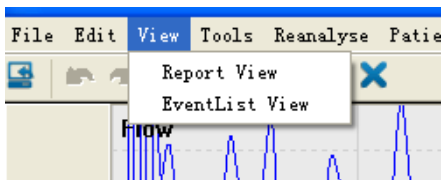
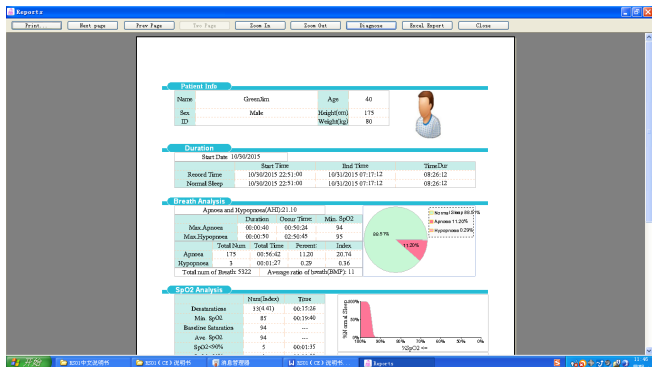

Figure 5-4-3
Figure 5-4-4
3. There are two menu options in the “View” menu, “Report View” and “EventList View” (as Figure 5-4-3). “Report View” menu is used to print reports, when clicking this option, the print preview interface will appear as Figure 5-4-4: there are such functions as zooming in, zooming out and paging-up and paging-down functions, when all have been done, click “Print” and the case report will be printed out.